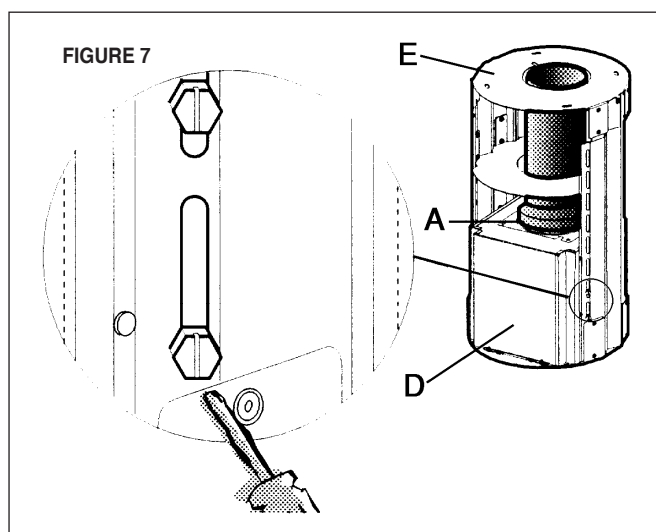
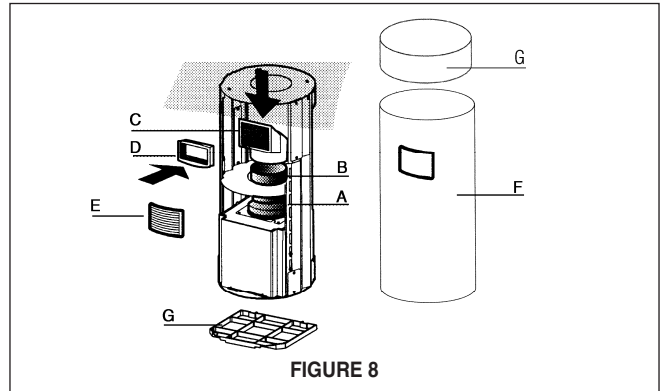

FIGURE 7
FIGURE 8
5. Determine the proper location for the Power Supply Cable as indicated on the template. Use a 1 1/4" Drill Bit to make this hole. Run the Power Supply Cable. Use caulking to seal around the hole. **DO NOT turn on the power until installation is complete!** A knockout is provided at the top of the UPPER CHIMNEY SUPPORT (E in FIGURE 7).
6. For ducted installations, place the round DAMPER (A in FIGURE 7) into the exhaust opening of the rangehood and press down.
7. Before attaching the support to the ceiling, you must determine the desired length of the support structure and adjust the length of the support by removing the eight screws (indicated in FIGURE 7) with a flat head screwdriver. Once the length of the support is determined, install and tighten the eight screws.
8. Slide the UPPER CHIMNEY COVER (C in FIGURE 1 for ducted installations - the upper chimney that came with the rangehood, or G in FIGURE 8 for ductless installations - the upper chimney that came with the ductless kit) down over the UPPER CHIMNEY SUPPORT (E in FIGURE 7) until it rests on the motor box (D in FIGURE 7). Attach the entire support to the ceiling. Make sure that the support is firmly attached to the ceiling.
Ductless installations require a **Ductless Conversion Kit** whose components are pictured in FIGURE 8. Do not use the DAMPER (A in FIGURE 7) for ductless installations. The LOWER CHIMNEY COVER (B in FIGURE 1) should be discarded and replaced by the new one with the hole from the **Ductless Conversion Kit** (F in FIGURE 8). The UPPER CHIMNEY COVER (C in FIGURE 1) should be discarded and replaced by the shorter one from the **Ductless Conversion Kit** (G in FIGURE 8).
As indicated in FIGURE 8, place the FLANGE (A) into the exhaust opening of the rangehood and press down. Fit the DUCTLESS DIVERTER EXTENSION VERTICAL (B) over the FLANGE (A) and fit the DUCTLESS DIVERTER (C) over the EXTENSION (B). Fit the DUCTLESS DIVERTER EXTENSION HORIZONTAL (D) into the DIVERTER (C).
2. Attach the duct work to the DAMPER (A in FIGURE 7). Make sure to seal all joints with duct tape to prevent leaks.
For ductless installations, line up the DUCTLESS DIVERTER EXTENSION HORIZONTAL (D in FIGURE 8) with the hole in the LOWER CHIMNEY COVER (F in FIGURE 8) and snap in the VENT GRID (E in FIGURE 8).
For ductless installations, install the CHARCOAL FILTER (G in FIGURE 8) behind the center grease filter opening by inserting and locking into place.